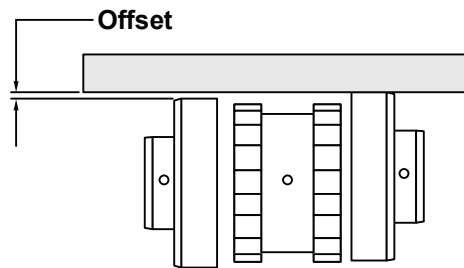

Figure 15- Measuring Offset
12. Check parallel alignment by placing a straightedge across the two coupling angles and measuring the maximum offset at various points around the edge of the coupling angles **WITHOUT ROTATING THE COUPLING FLANGES**. If the maximum offset exceeds .015 inches, realign the shafts. Reference Figure 15.